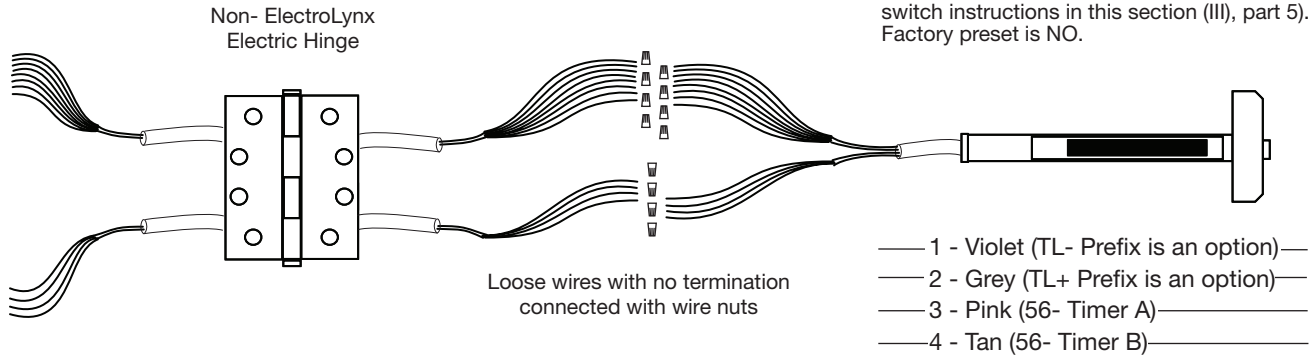

Fig. 17 Non-ElectroLynx TIMER MODE Connection
3. Connect the ElectroLynx harness in the door (Fig. 17 ElectroLynx **TIMER MODE** Installation):
- a. Plug the 8-pin and 4-pin ElectroLynx connectors from the rail into the 3" ElectroLynx harness or splice into a non-ElectroLynx harness (Fig. 17 **TIMER MODE** Installation).
- b. Feed the 3" harness through the 1" hole in the door and secure the rail to the door using the mounting bracket and two supplied screws (Fig. 17 **TIMER MODE** Installation).